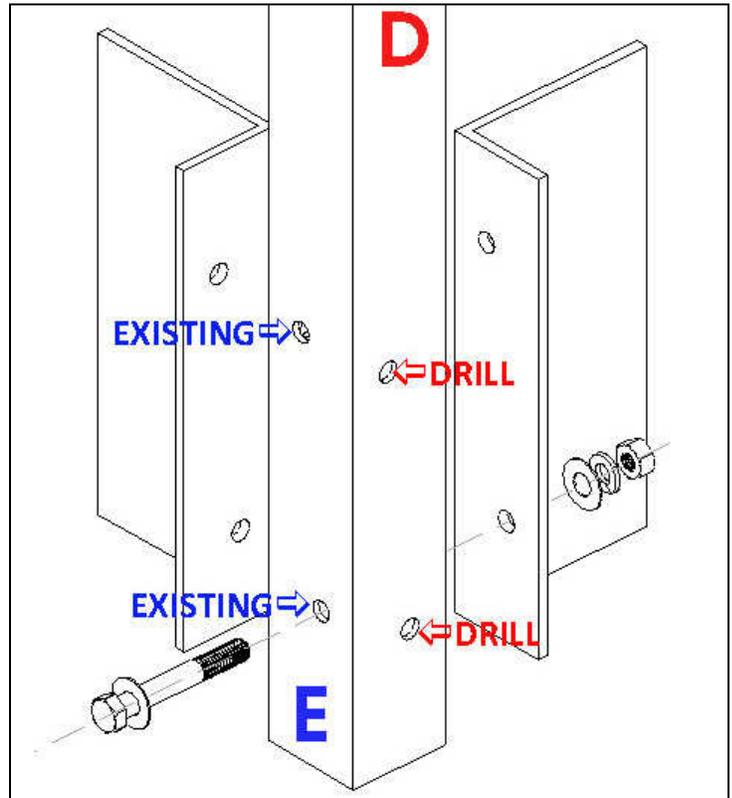

Fig. 1
**1.** On a fascia post locate side E with existing holes, see Fig. 1. Existing upper hole should be on the left.